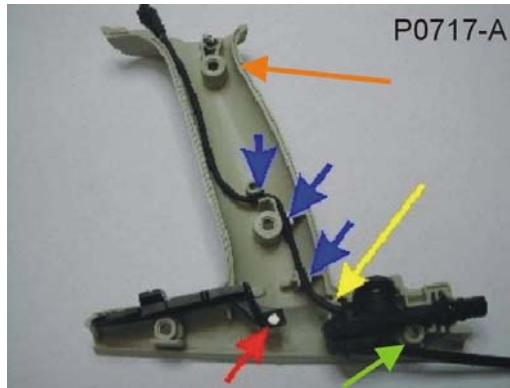

Figure 31: Right Handle with Wiring Loom Correctly Positioned
- Lay the wiring loom into the cable channels and ensure the wiring loom plug exits the top of the handle in front of the upper screw boss. (Figure 31)